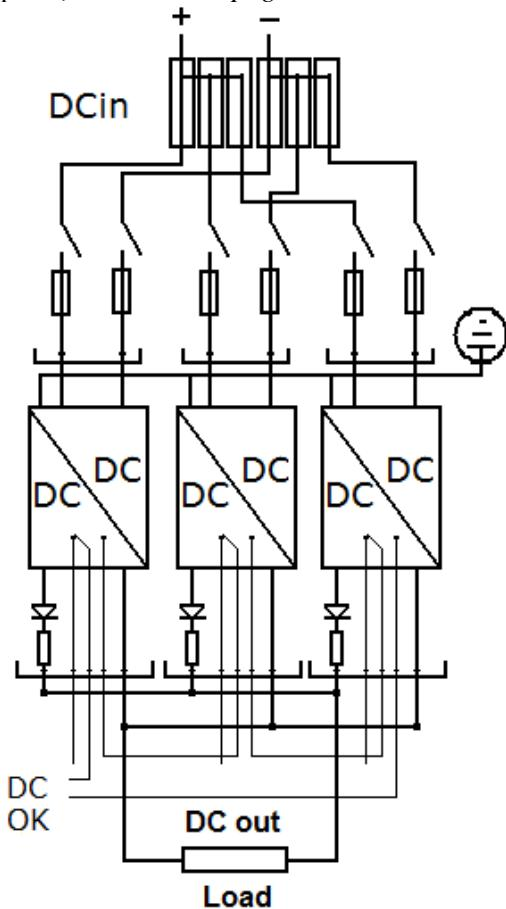

Figure 2. An $N+1$ system with two units for the load and one for the redundancy.
The figure 2 shows a $N+1$ system with two units for the load and one for the redundancy. Each Power supply has a built in; series diode (C), balancing resistor (R) and alarm Relay option B. The alarm is cascade connected.